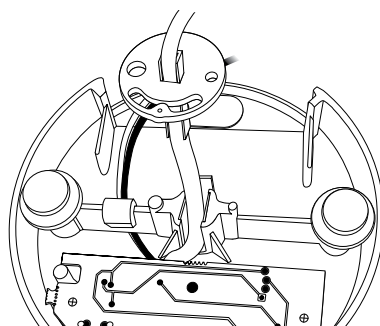

Figure 7
2. Slide the bearing plate (p/n 2674) over cable and press onto the fasteners on the Entry Device (Figure 7).
4. Insert the spindle into the keypad, and route the cable in the groove of the spindle (Figure 7).
6. Slide the bearing plate (p/n 2674) over the cable, and press onto the fasteners on the Entry Device (Figure 7).